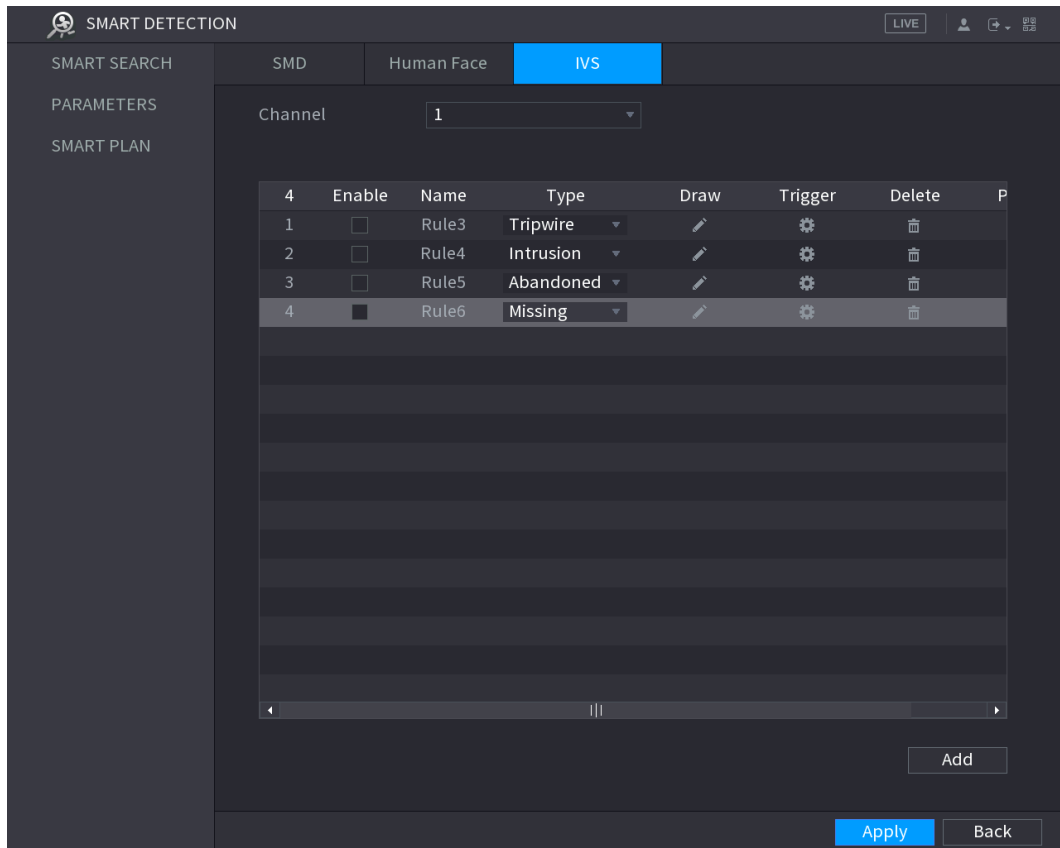

Figure 5-162
Step 1 On the rule line that you added, in the **Type** list, select **Missing**. See Figure 5-162.